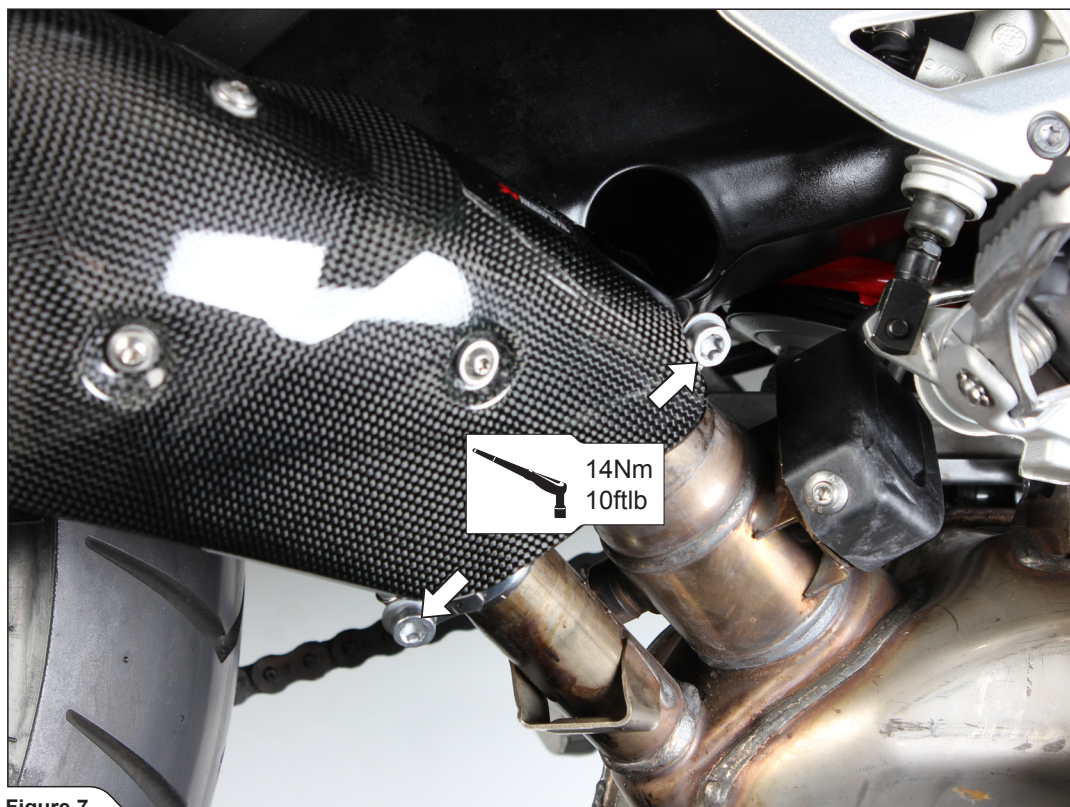

Figure 7
5. Tighten the clamps to the specified torque (**Figure 7**).